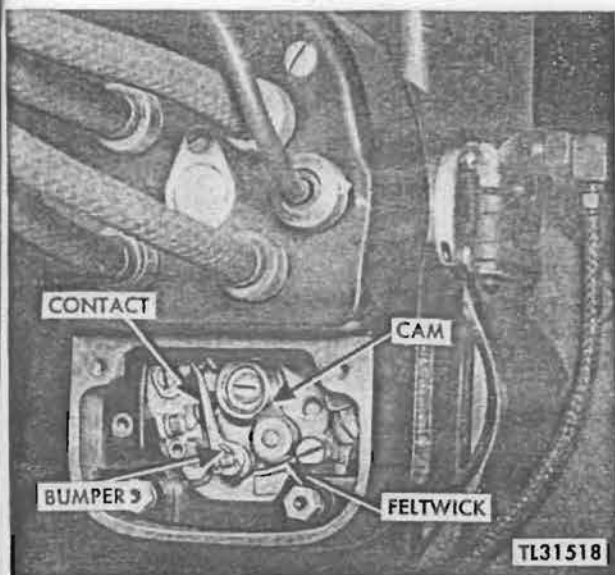

Figure 161. Magneto inspection plate removed.
c. MAINTENANCE PROCEDURE; PREPARATORY STEPS. (1) Remove the breaker-point inspection plate. (See fig. 161.)
(2) Remove the spark-plug shields.
The magneto cam-lubricating felt wick. Place a few drops of SAE No. 50 engine oil on the wick after every 500 hours of operation. Take care to prevent the oil from getting on the contact surfaces. (See fig. 161.)